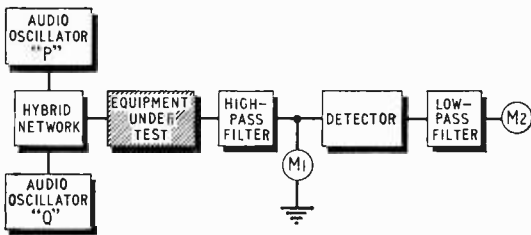

Fig. 3. In the S.M.P.T.E. system of measurement, the low-frequency signal has an amplitude four times that of the high-frequency signal.
**S.M.P.T.E.** This system uses a high-frequency signal "P" and a low-frequency signal "Q", which has an amplitude four times that of "P". These signals are combined in a suitable hybrid network and applied to the equipment under test (Fig. 3). The output is fed through a high-pass filter which rejects the low-frequency signal "Q". The modulated high-frequency signal consisting of  $P + Q$ ,  $(P-Q)$ ,  $(P + 2Q)$ ,  $(P-2Q)$  etc. is then detected and fed through a low-pass filter so as to select only the modulation products, which are then rectified and fed to the meter M2. The amplitude of this signal is then measured as a percentage of the high-frequency signal, thus giving the percentage intermodulation distortion. The main precaution to be observed in using this system of measurement is to ensure that the low-frequency signal is within the pass band of the equipment under test.